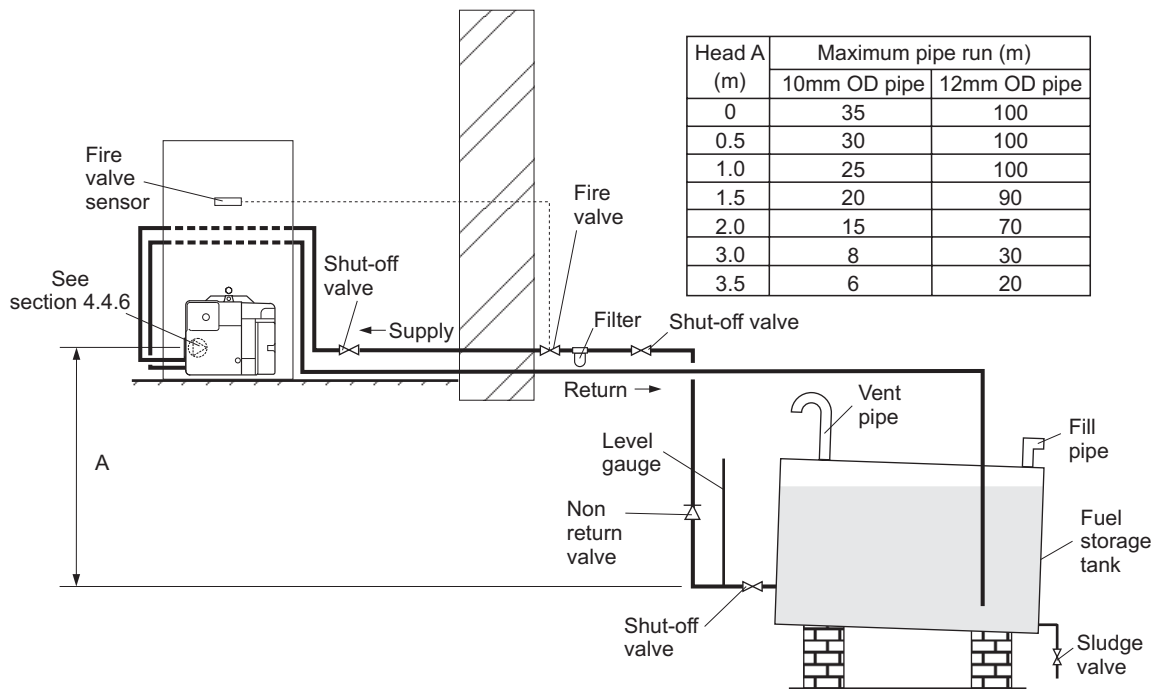

Fig. 4 - Two pipe system
4.4.4 Two pipe system - (See Fig. 4)
- 1 When the storage tank outlet is below the burner, the two pipe system should be used. The pipe runs should be as shown in Fig. 4. The return pipe should be at the same level in the tank as the supply pipe, both being 75 to 100 mm above the base of the tank. The pipe ends should be a sufficient distance apart so as to prevent any sediment disturbed by the return entering the supply pipe.
- 4 To be used with a two-pipe system, the burner **must** be fitted with an additional flexible fuel hose (a flexible fuel hose (600 mm) and $\frac{3}{8}$ " to $\frac{1}{4}$ " BSP male adaptor are available to purchase from Grant Engineering (UK) Limited), Part No. RBS104. See Section 4.4.6.